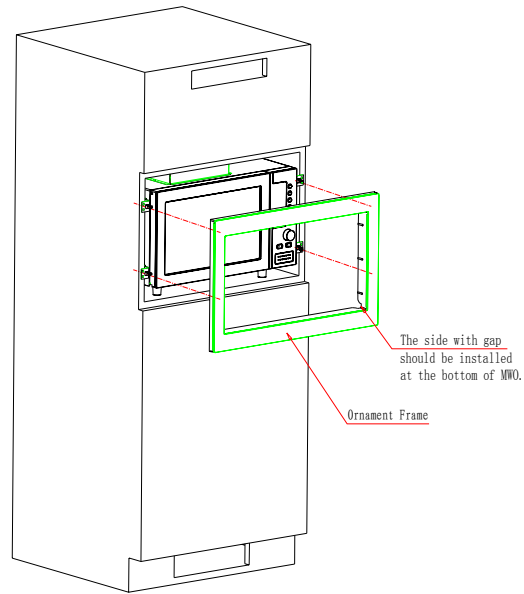

Fig.4
a) Intake and exhaust port on back surface, as shown in Fig.4.
d)Secure ornamental frame to holders,as shown in Fig.4.